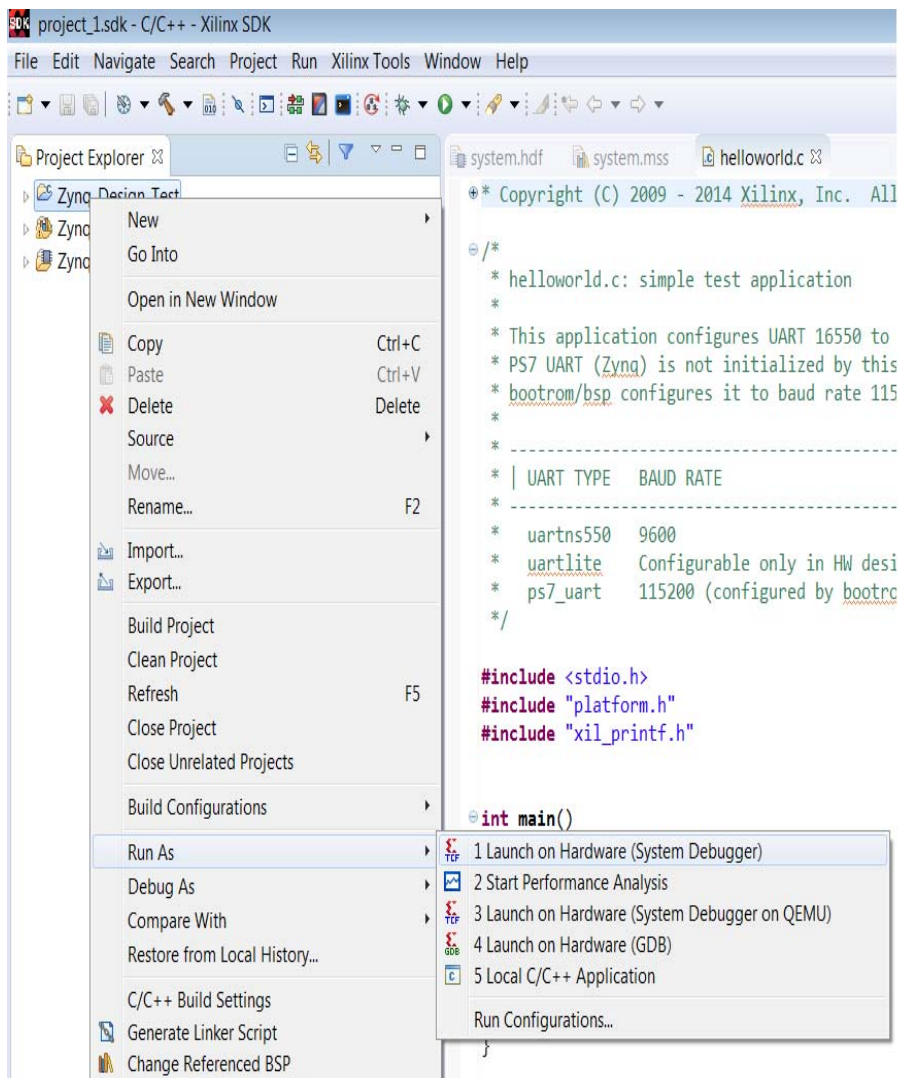

Figure 10-24: Run the Application Project
9. Right-click the application project **Zynq_Design_Test** in the Explorer pane (Figure 10-24).